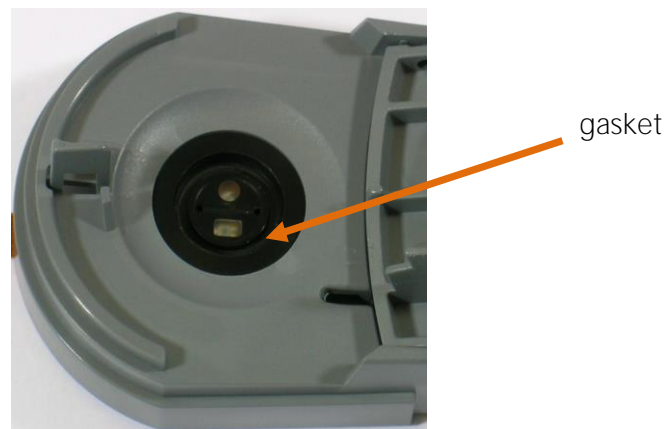
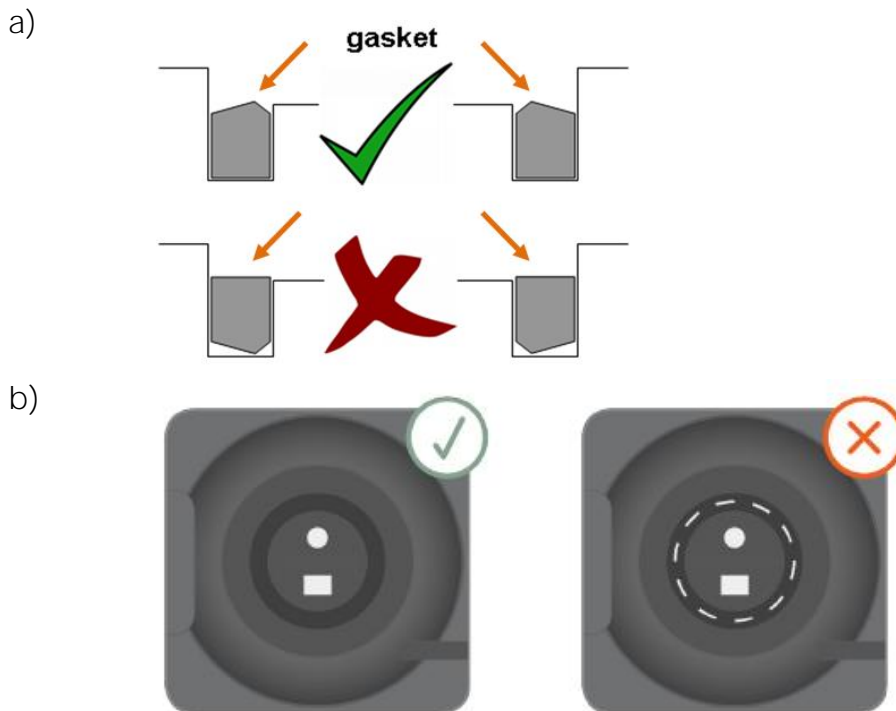

Figure 16 Replacement, Docking Station Gasket
Figure 17 Positioning of the Docking Station Gasket
5. Insert a new (**asymmetric**) gasket (see *Figure 16 Replacement, Docking Station Gasket* and *Figure 17 Positioning of the Docking Station Gasket*) by pressing it with a cotton swab soaked with 70% isopropanol into the lining groove. Make sure that no cotton fibers remain on the gasket as this might cause leak problems.